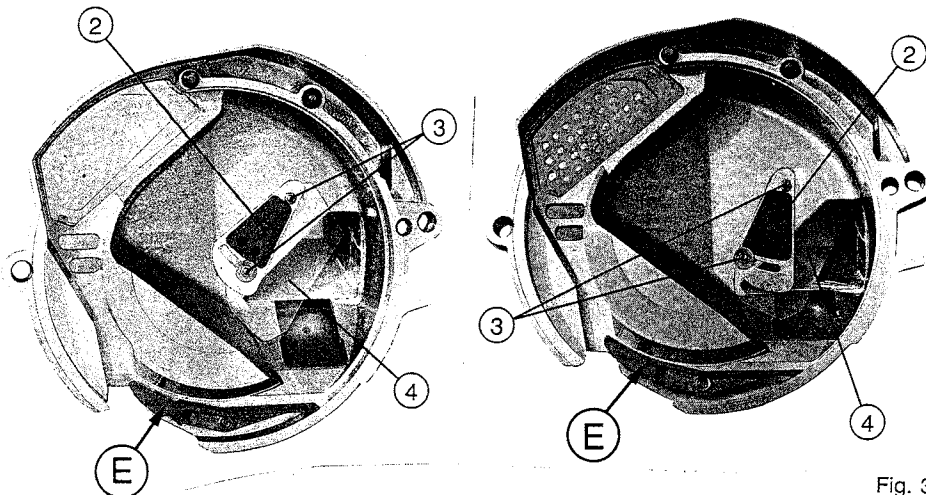

Fig. 35
- 2- Low position (fig.35) For Small Seeds such as sunflower, beet, sorghum, etc.